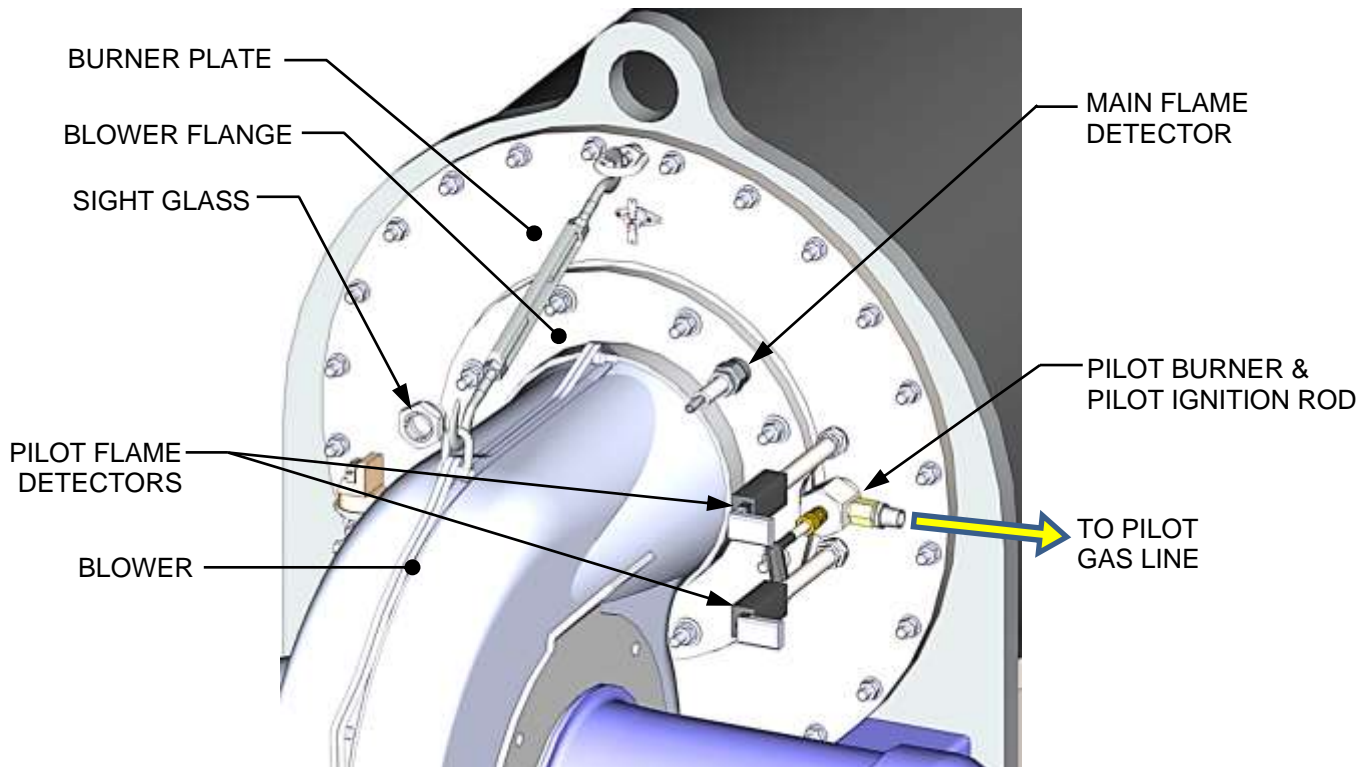
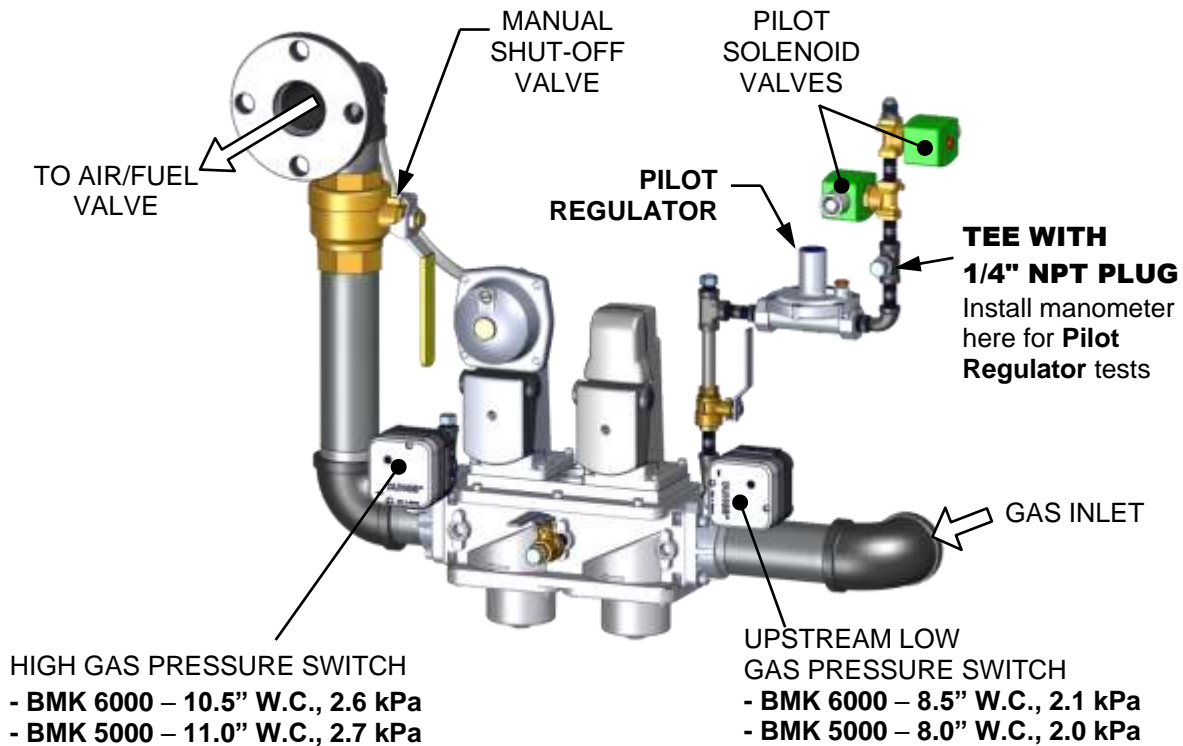
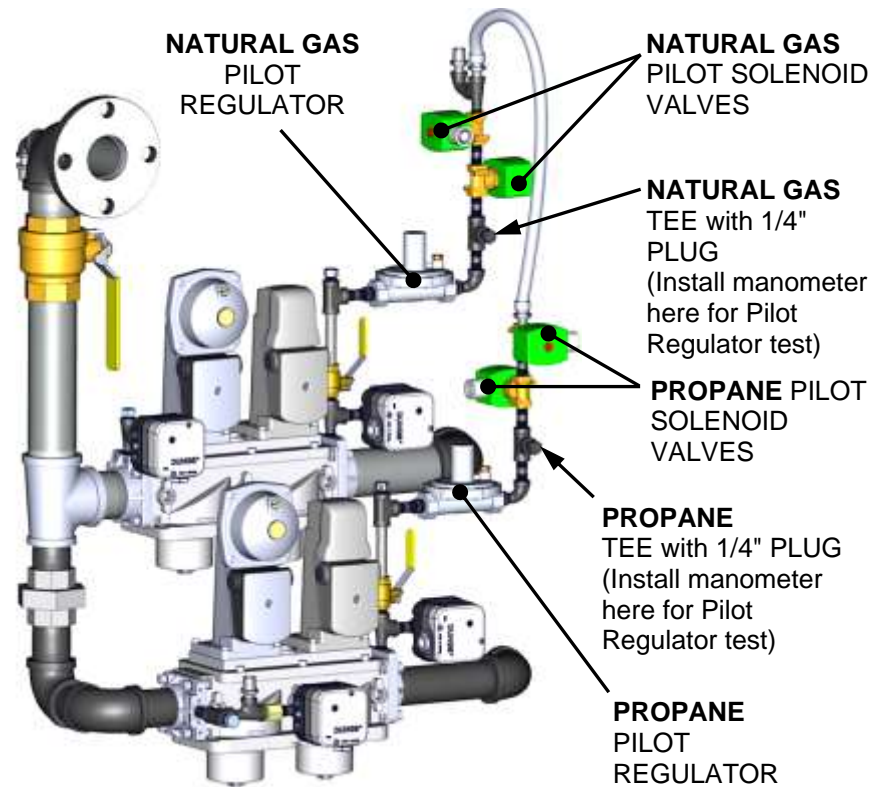

Figure 4-1a: Pilot Burner, Main & Pilot Flame Detector Mounting Locations
Figure 4-4a: BMK 5000/6000 Single Fuel Pilot Regulator Mounting Location
Figure 4-4b: BMK 5000/6000 Dual Fuel Pilot Regulator Mounting Location
The Pilot Burner (P/N **29700**) is located on the right-front of the Burner Plate. It contains an ignition cable, the Pilot gas line connected to the bushing, and the Pilot Burner Rod (P/N **66100**), which should be inspected and/or replaced according the schedule in Table 4-1a. Figure 4-1a shows the location of the Pilot Burner and related components.
3. Disconnect the ignition cable from the Pilot Burner (Figure 4-1a).
4. Using a 1/2" open-end wrench, disconnect the Pilot gas line from the reducer fitting and elbow shown in Figure 4-1a.
The Main Flame Detector (**Replacement Kit P/N 65182**) is located on the Blower Flange near the top of the unit (see Figure 4-1a, above). The Main Flame Detector may be hot. Allow the unit to cool sufficiently before removing the Main Flame Detector. Inspect or replace the Main Flame Detector as follows:
Benchmark 5000 & 6000 standard models feature one Pilot Regulator system in the Natural Gas gas train, while Benchmark 5000 & 6000 Dual Fuel units have two Pilot Regulator systems, one in the Natural Gas gas train (see Figure 4-4a) and one in the Propane gas train (see Figure 4-4b).
3. Remove the 1/4" NPT plug from the Tee on the outlet side of the Pilot Regulator (Figure 4-4a or Figure 4-4b) and insert a NPT-to-barbed adapter fitting.
5. Remove the cap from the Pilot Regulator to access the gas pressure adjustment. Rotate the regulator adjustment (beneath cap) clockwise (CW) to its highest possible pressure setting.
10. Pull out one of the Pilot Flame Detectors (see Figure 4-1a, above) and look into the observation port on the front plate. You should see the orange glow of the Pilot flame during the ignition trial period.
3. Remove the pipe plug from the 1/4" NPT port on the outlet side of the Pilot Regulator (Figure 4-4a or Figure 4-4b, above) and insert a NPT-to-barbed adapter fitting.
5. Remove the cap from the Pilot pressure regulator and rotate the regulator adjustment (beneath cap) clockwise (CW) to its highest possible pressure setting.
9. Pull one of the Pilot Flame Detectors out (see Figure 4-1a) and look into the port in the front plate. You should see the orange glow of the Pilot flame during the ignition trial period.